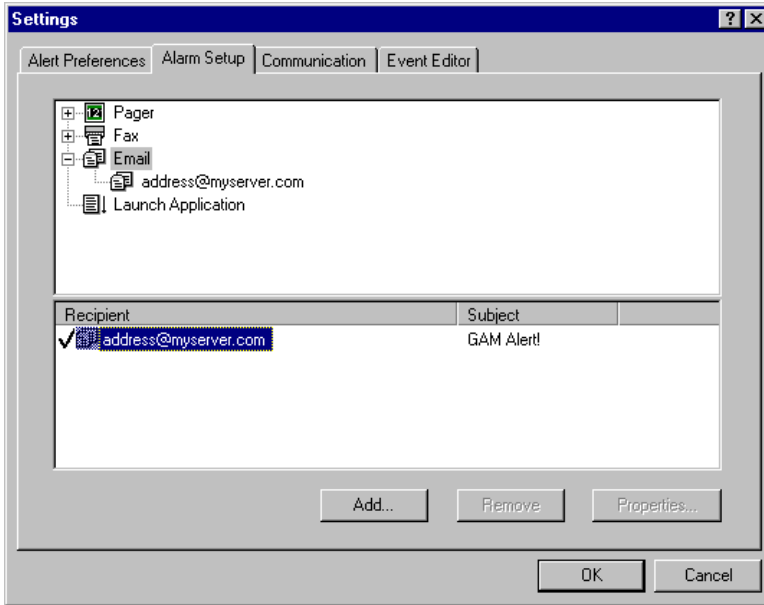

Figure 3-25. Email Alarm Setup
1. Select the Email alarm type in the upper window of the Alarm Setup dialog box (Figure 3-25).
Your new Email entry appears in the lower window of the Alarm Setup dialog box. (Refer to Figure 3-25 for an example.)